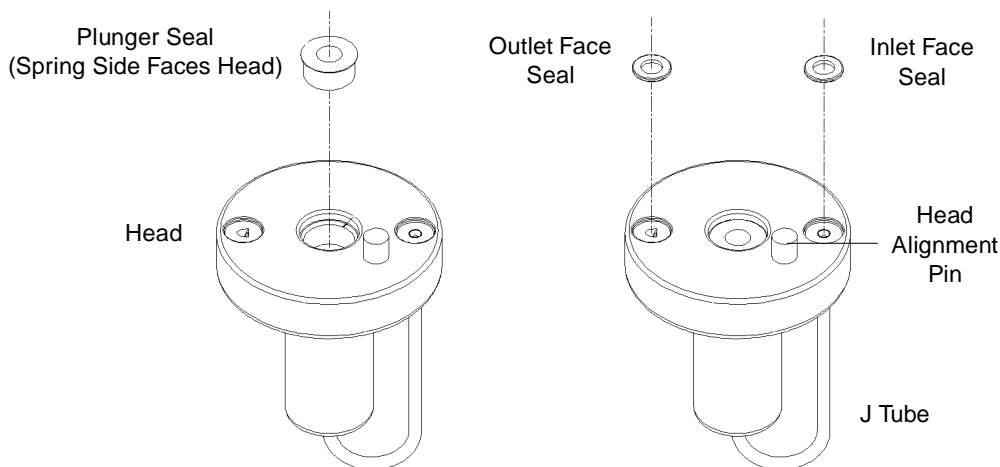

Figure 7-4 Plunger and Face Seal Orientation
Note: To ensure optimum performance, replace the plunger seal in a head when you perform service on the head. Replace the face seals every second or third plunger-seal replacement (see Figure 7-4).
2. Use the plastic end of the seal-removal tool to remove the plunger seal from the head (Figure 7-4).
4. Place the new plunger seal on the seal-insertion tool with the spring side facing away from the tool. Insert the tip of the tool into the plunger seal opening in the head (see Figure 7-4), then push firmly to install the seal.
2. Direct compressed air into the center of the face seal or use plastic tweezers to remove the inlet and outlet face seals from the seal openings in the head (see Figure 7-4).